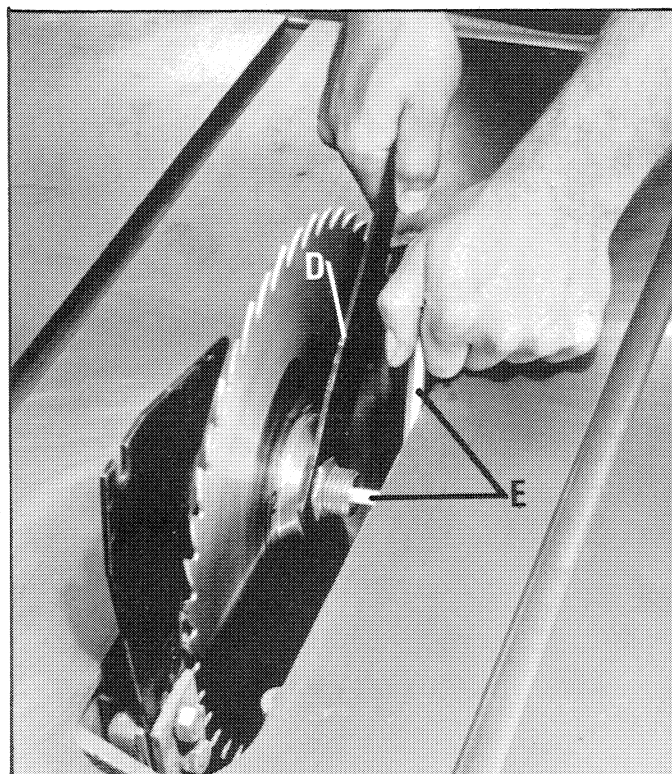

Fig. 36
2. Place wrench (D) Fig. 36, on arbor nut and insert wrench (E) in hex slot in end of arbor. Turn wrench (D) toward front of saw to loosen arbor nut. Remove arbor nut, flange and blade.